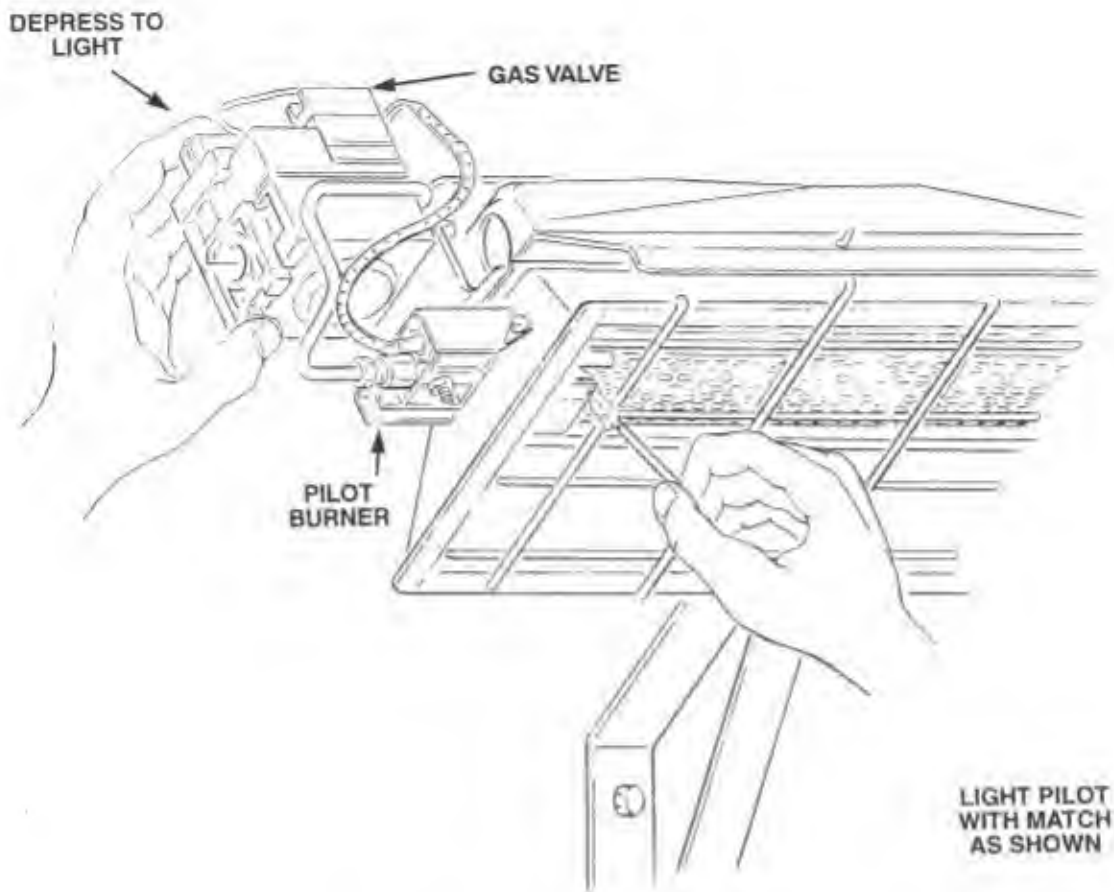

Figure 10. Lighting of Pilot Burner
- f. Depress the manual gas control knob. Using a match, light the pilot light. See Figure 10. Hold the knob down for approximately 30 seconds to allow any air in gas lines to pass through pilot and, once pilot is lit, allow the thermocouple to heat up enough to activate the safety valve in an open position.